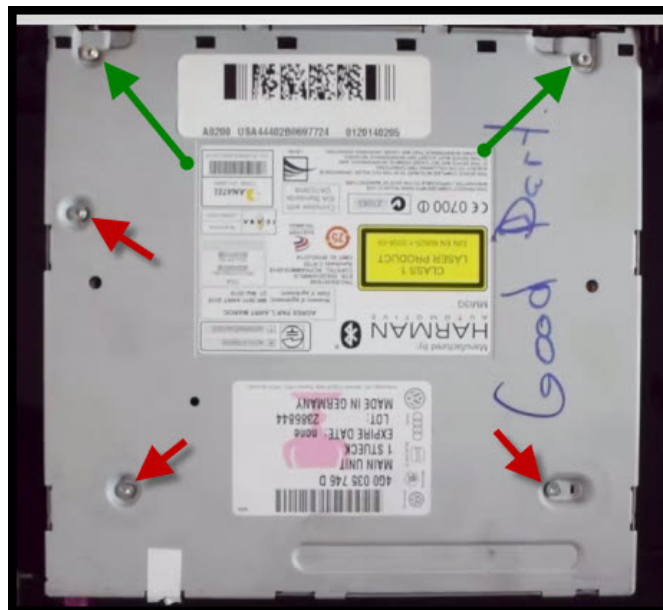

Figure 6. MMI main unit with screw locations for top cover.
7. Start by touching the screw driver to the ESD mat to discharge any static that may be built up in the tool. Next, remove the five screws that are holding the MMI top cover in place. The two screws near the faceplate (Figure 6, green arrows) are longer than the others, have thread lock on them, and may require extra effort to remove. Keep these screws separated from the others at all times.